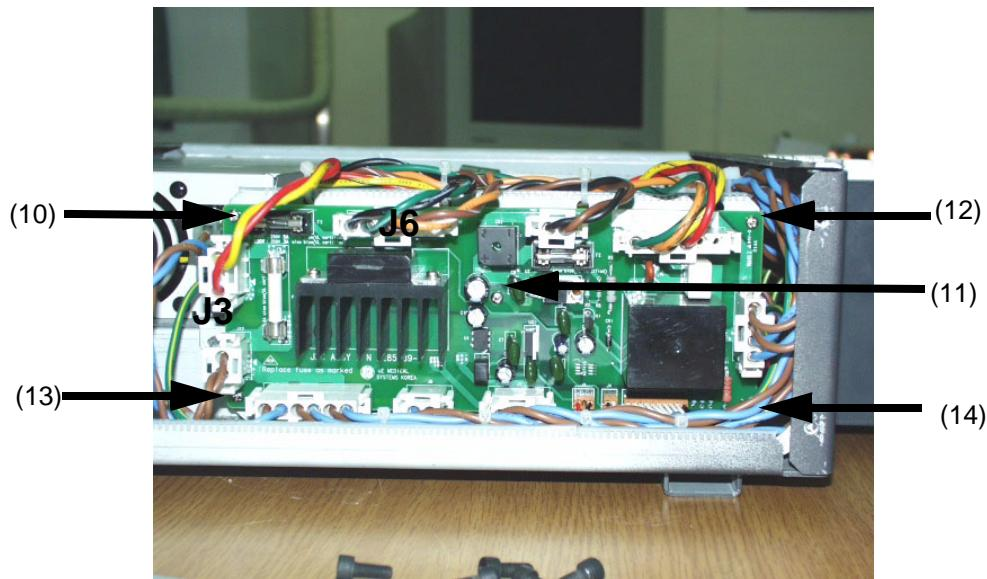

Figure 8-177 Disconnecting all connectors
- 3.) Disconnect all the connectors connected in the JPC Assy. Refer to Figure 8-177.